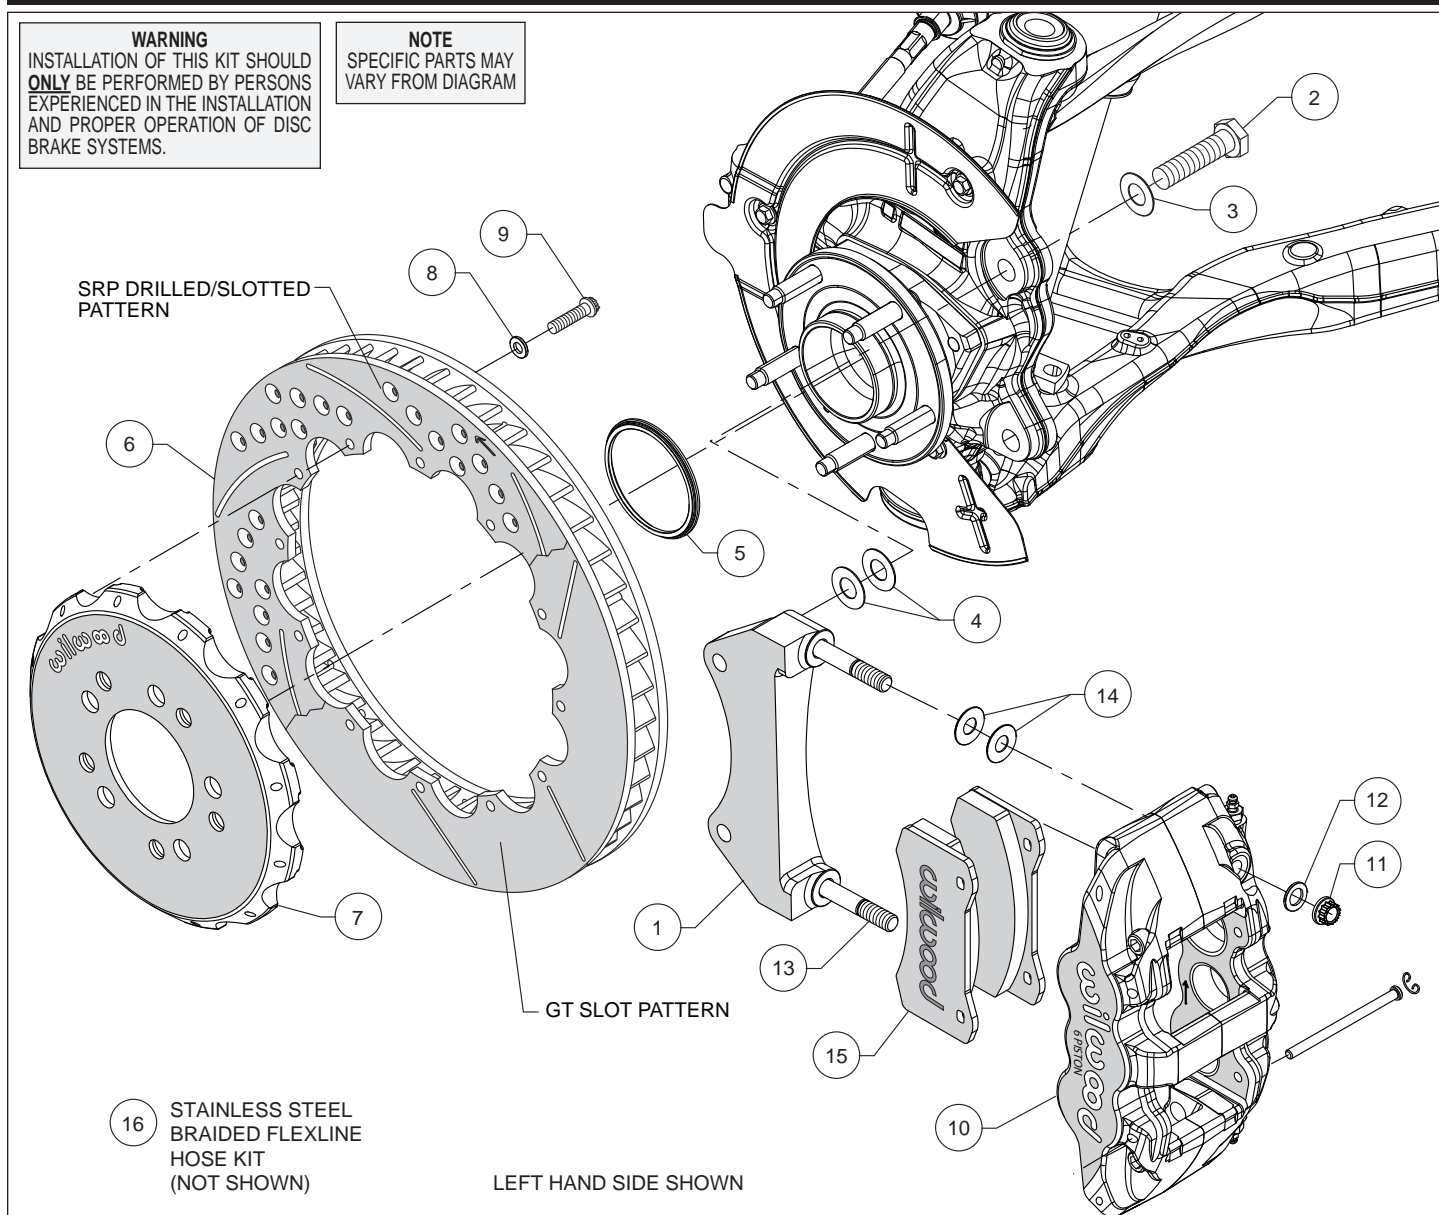
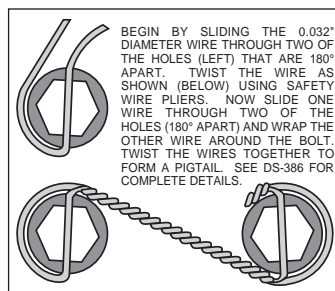

Figure 1. Typical Installation Configuration
Figure 4. Safety Wire Diagram
Assembly Instructions (numbers in parenthesis refer to the parts list and Figure 1 on the preceding pages):
- The caliper mount bracket (1) should initially be installed with clean, dry threads on the mounting bolts. Orient the bracket as shown in Figure 1, and Photo 1 and install using bolts (2) and washers (3). Initially place two .029" thick shims (4) on each bolt between the bracket and upright, Figure 1. Temporarily tighten the mounting bolts. **NOTE:** The bracket must fit squarely against the mount bosses on the upright. Inspect for interference from casting irregularities, machining ridges, burrs, etc. Later, after the caliper alignment has been checked, the mount bolts will be secured using red *Loctite*® 271.
- Orient the rotor (6) and the hat (7) as shown in Figure 1 and Photo 2. Attach rotor to hat using bolts (9) and washers (8). Using an alternating sequence, apply red *Loctite*® 271 to the threads, and torque to 155 in-lbs. For an added measure of security, the bolts may be safety wired using standard 0.032 inch diameter stainless steel safety wire as shown in Figure 4. Please refer to Wilwood's data sheet DS-386 for complete safety wire installation instructions.
- NOTE:** This kit contains distinct right and left hand calipers that must be mounted in a specific direction, as described below. Lubricate the caliper mounting studs (13) with lightweight oil. Initially place two .030" thick shims (14) on each stud as shown in Figure 1 and Photo 5. Mount the caliper (10) onto the bracket (1) using lock nuts (11) and washers (12), Figure 1. Ensure that the caliper is mounted so that the largest pistons are at the rotor exit end of the caliper, in relation to the direction of rotor rotation. Temporarily tighten the lock nuts and view the rotor through the top opening of the caliper. The rotor should be centered in the caliper, Photo 6. If not, adjust by adding or subtracting shims (4) between the bracket and the upright. Always use the same amount of shims on each of the two mounting bolts. Once the caliper alignment is correct, remove the bracket mounting bolts (2) one at a time, apply red *Loctite*® 271 to the threads, and torque to 77 ft-lb.
- Remove the two pad retaining pins from the caliper (10) by carefully popping out the pin retaining clips and sliding out the pins. Insert the brake pads (15) into the caliper from the bottom, Figure 1 and Photo 7. With the friction material facing the rotor, secure the brake pads in place with the pad retaining pins and clips, Photo 8. Reinstall the caliper onto the caliper mounting bracket and temporarily tighten the lock nuts. Check that the top of the brake pad is flush with the outside diameter of the rotor, Photo 9. If not, adjust by adding or subtracting shims (14) between the caliper and the bracket. After the caliper pad height is set, torque the caliper lock nuts (11) to 47 ft-lb.